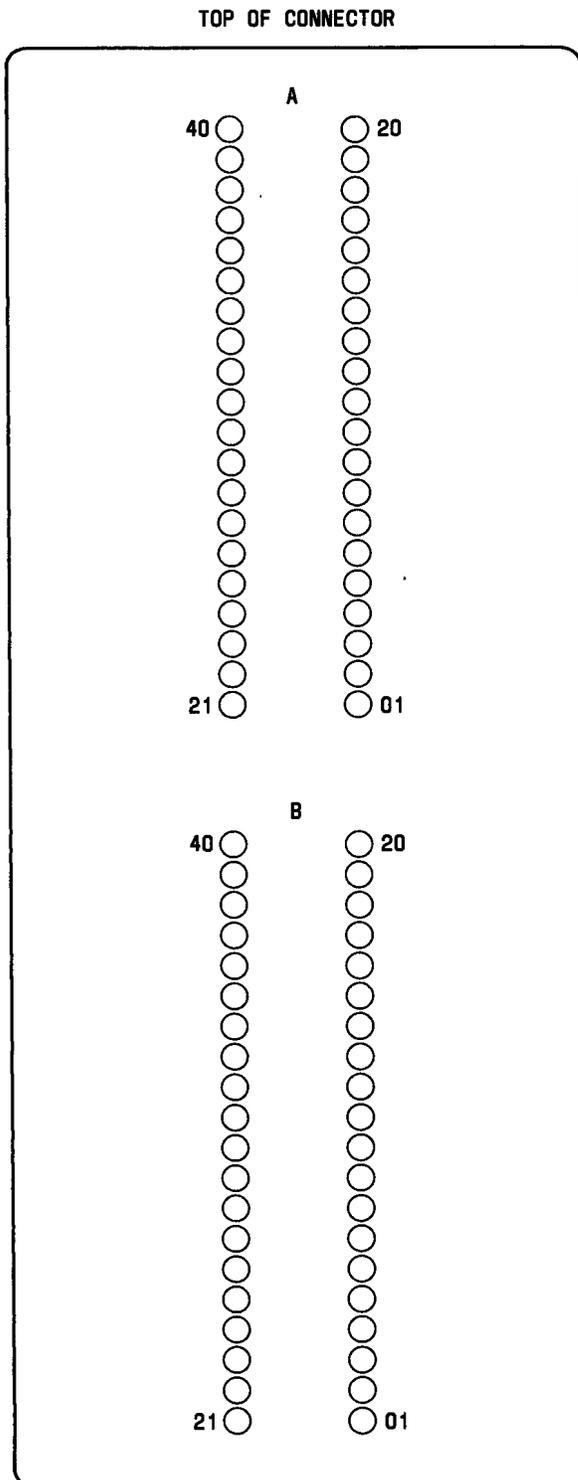

Fig. 1—Rear View of CP Connector
**2.05** For the location of pins on a CP connector, see Fig. 1.